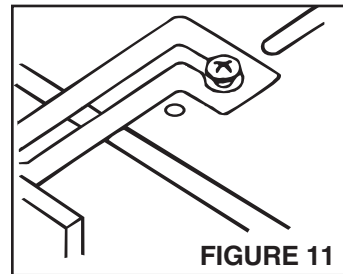

FIGURE 11
3. Refer to Figure 11. Attach master panel to rough-in frame by placing mounting hinge keyhole slots over shoulder screw heads in the rough-in frame.